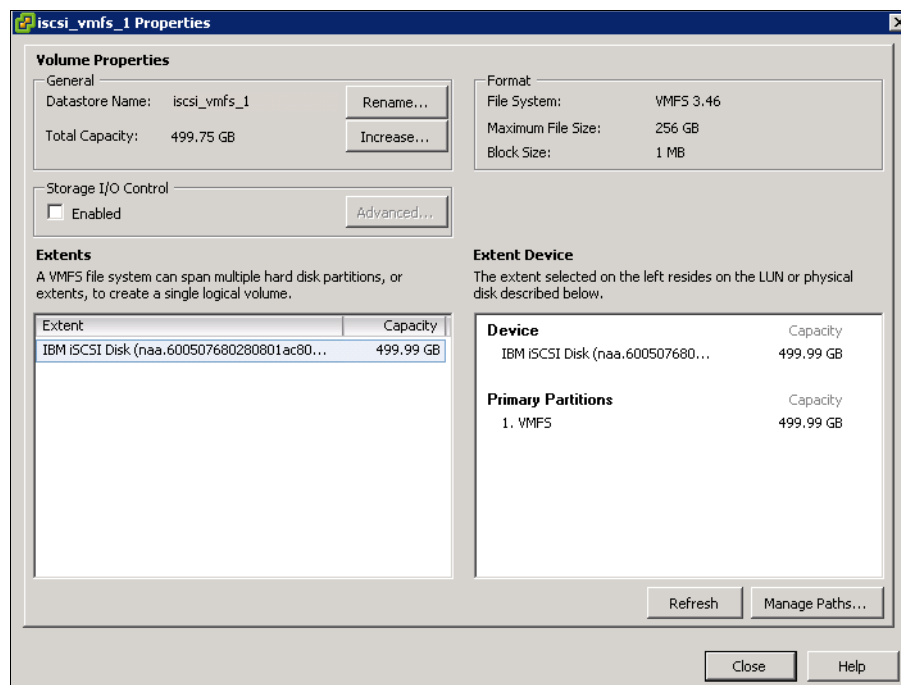

Figure 5-66 Data store properties
13. Highlight the new data store and click **Properties** to open and review the data store settings (Figure 5-66).